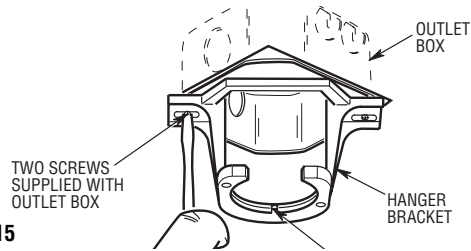
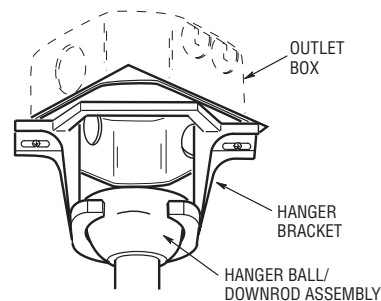

Figure 15
Figure 16
- 1. Securely attach the hanger bracket to the outlet box using the two screws supplied with the outlet box. (Figure 15.)
- 2. Carefully lift the fan and seat the hanger ball/downrod assembly on the hanger bracket that was just attached to the outlet box (Figure 16). Be sure the groove in the ball is lined up with tab on the hanger bracket (Figure 15).